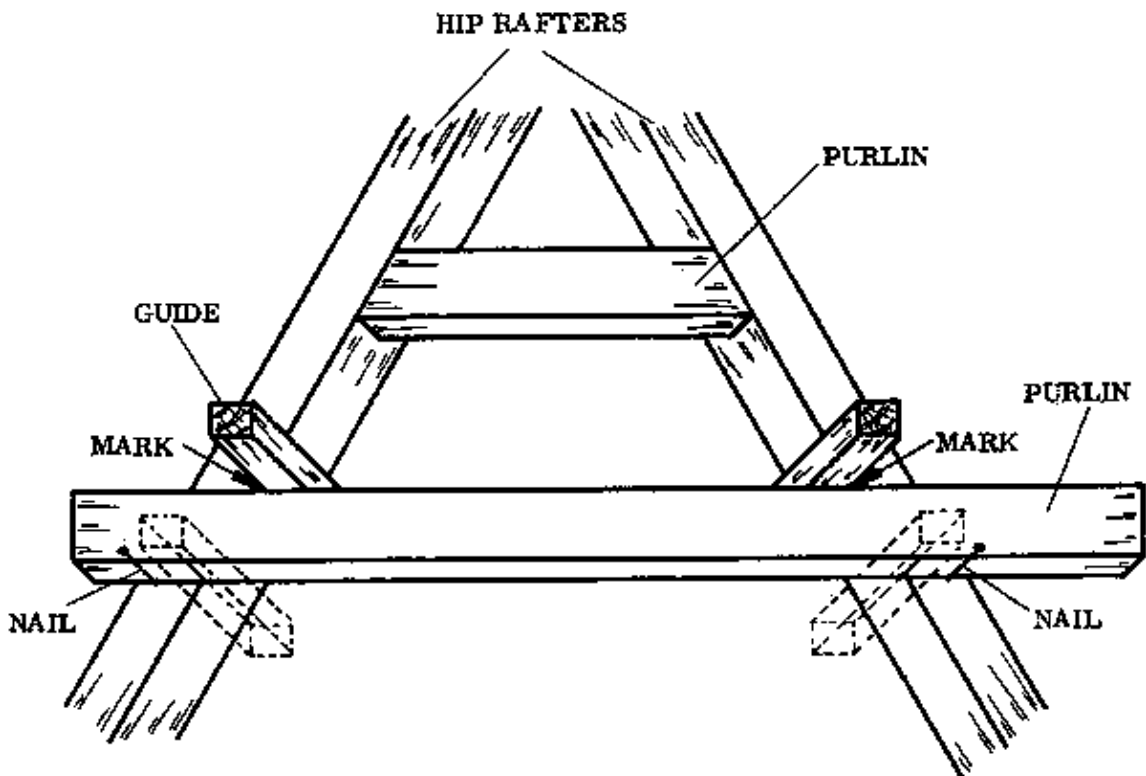

Fig. 2
– Mark the positions of the purlins on top of the hip rafters, and insert a nail at the mark to support the purlin during marking (Fig. 2).
– Place the purlin against the nails and mark the cutting lines. Use a short piece of wood as a guide (Fig. 2). Make the marks on both sides of the purlin at once, then mark both sides at the